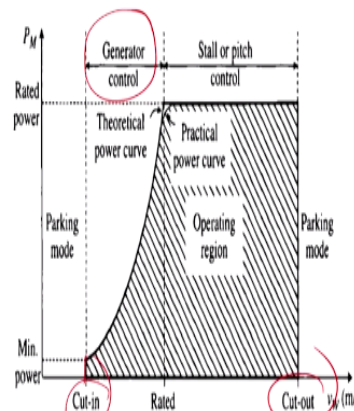

Fig.3: Turbine mechanical power versus wind speed curve
- A typical power curve is characterized by three wind speeds: cut-in wind speed, rated wind speed, and cut-out wind speed, as illustrated in Fig.3 where  $P_M$  is the mechanical power generated by the turbine and  $v_w$  is the wind speed.
The power characteristics of the wind turbines are defined by the power curve, we shall just come to this power curve, which relates the mechanical power of the turbine with the wind speed. A typical power curve is characteristics by the wind speed, cut-in wind speed, rated wind speed and cut-out wind speed and it will be illustrated in the next figure that is figure 3, where  $P_M$  is the mechanical power generated by the turbine and the  $v_w$  is the wind speed. So this is something that you will have to see.